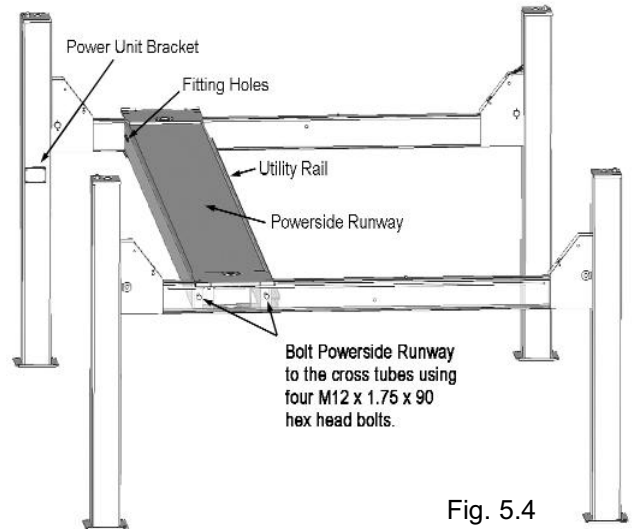

Fig. 5.4
4. Position the Powerside Runway on top of the Cross Tubes with the utility rail towards the center. The fitting holes located at the side of the Powerside Runway should be adjacent to the Power Unit Column. Align the holes in the runway with the holes on the Cross Tubes and bolt together using four M12 x 7.75 x 90 hex bolts and washers. (See Fig. 5.4 )